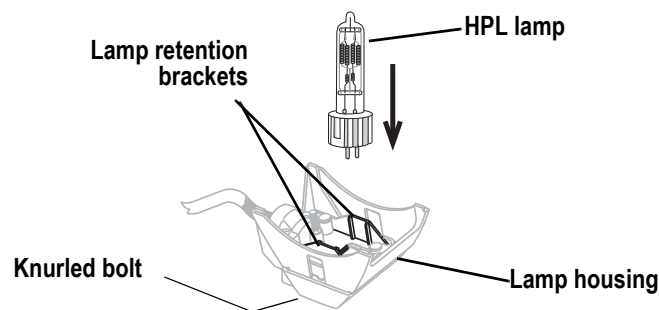

Figure 3
Step 4: Align the flat sides of the lamp base with the retention brackets on either side of the socket as shown in Figure 3.